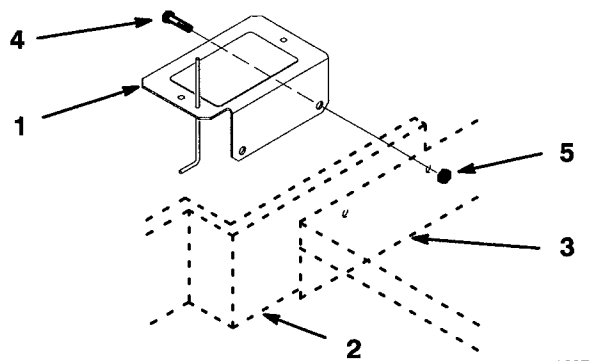

Figure 7
- Mount battery holder and cutting unit carrier frame at the same time to upper holes on right side of traction unit. Use (2) 1/2 x 1-3/4" (32 mm). flange head capscrews and (2) 1/2" locknuts (Fig. 7).